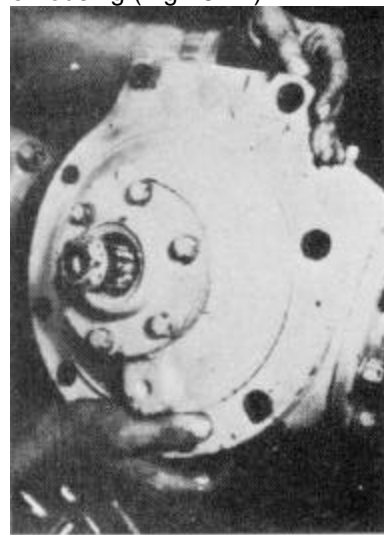

Figure 5-44
10. Break the gasket seal between the pinion case and the final drive housing (Fig. 5-44).